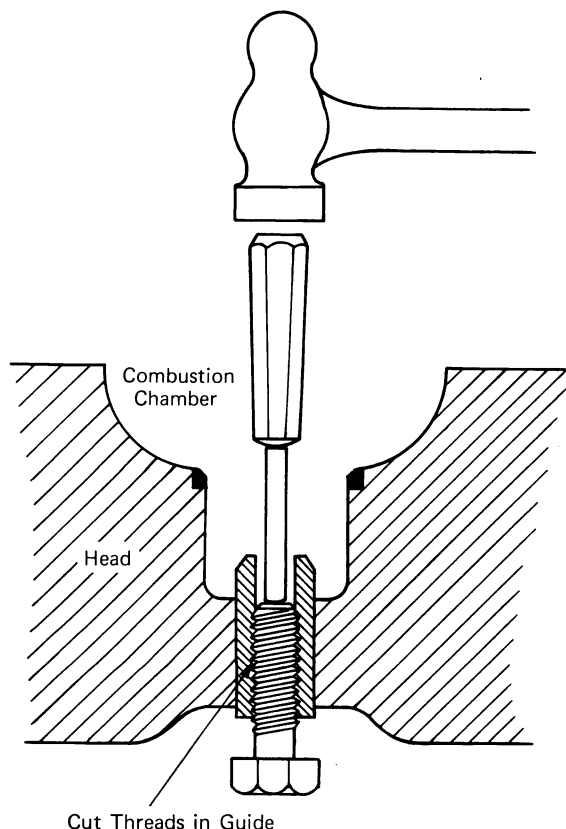

Fig. 23-9 Removing valve guide insert
3. Turn the head over and, from the combustion chamber side, use a hammer and drift directly against the bolt to drive out the guide (Fig. 23-9).